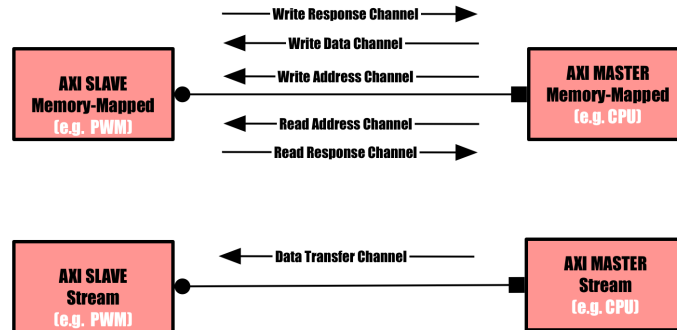

Figure 2: AXI Memory Mapped and AXI Stream architecture
As we have talked about customization per application, you can use two types of advanced eXtensible interfaces (AXIs): AXI Stream and AXI Memory Mapped (MM). Basically, a simple application such as computation of some stream of data can make use of AXI Stream, while a more complex one (e.g. writing on a memory) might need access to addresses (so AXI MM comes in place). Their diagrams can be seen in Figure 2. In our case, we will use an AXI Memory Mapped architecture, and PWM (Pulse Width Modulation) slave module to control LEDs and a buzzer.
open *PWM_v1_0_S00_AXI.vhd*, you will see the registers specific to the AXI-Memory Map architecture (Figure 2). In addition, the user can add its own logic and signals. Thus, you can see the implementation of PWM outlined by the following comments: